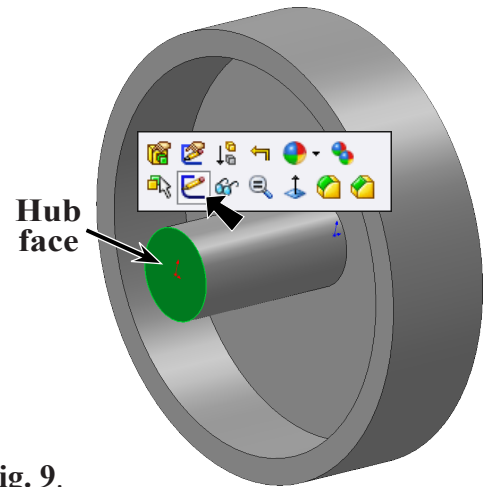
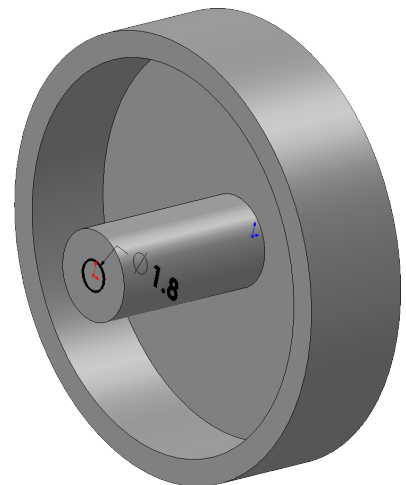

Fig. 8
Fig. 9
Step 1. Rotate view slightly to view **inside of rim**, hold down middle mouse button (wheel) and drag to rotate view, **Fig. 8**.
Step 2. Click **front face of hub** and click **Sketch**  on the Content menu, **Fig. 8**.
Step 3. Click **Circle**  (S) on the Sketch toolbar.
Step 4. Draw a circle for the hole starting at the Origin , **Fig. 9**.
Step 5. Click **Smart Dimension**  (S) on the Sketch toolbar.
Step 6. Dimension **diameter 1.8**, **Fig. 9**.